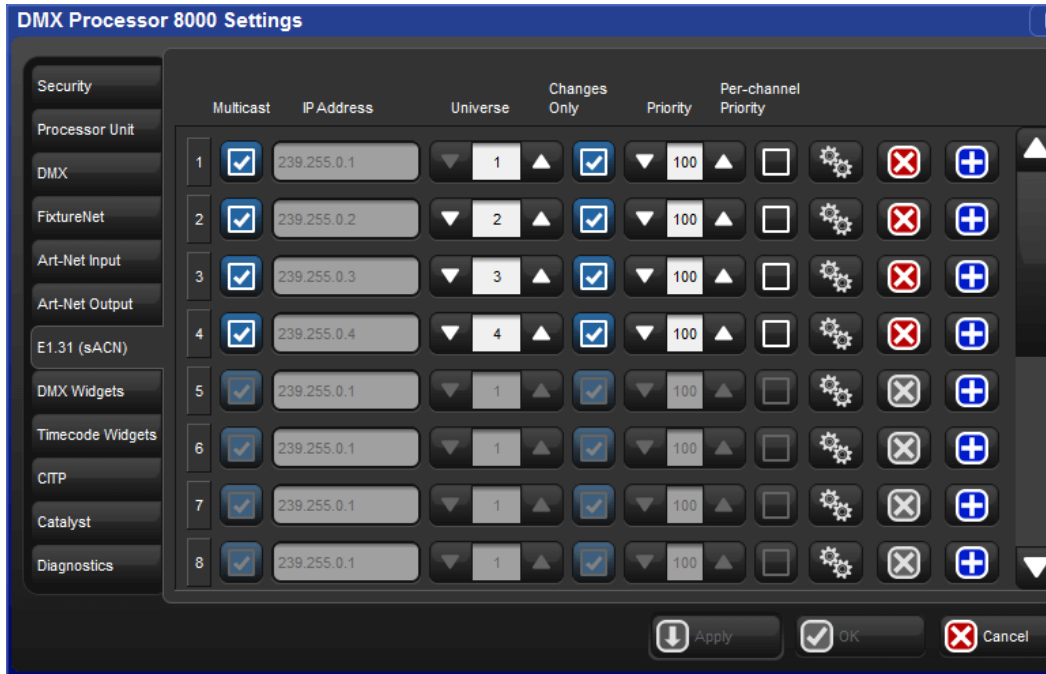

Figure 3.11. E1.31 pane of the DMX Processor Settings window
3. Select the E1.31 pane of the DMX Processor Settings window, see *Figure 3.11, "E1.31 pane of the DMX Processor Settings window"*.